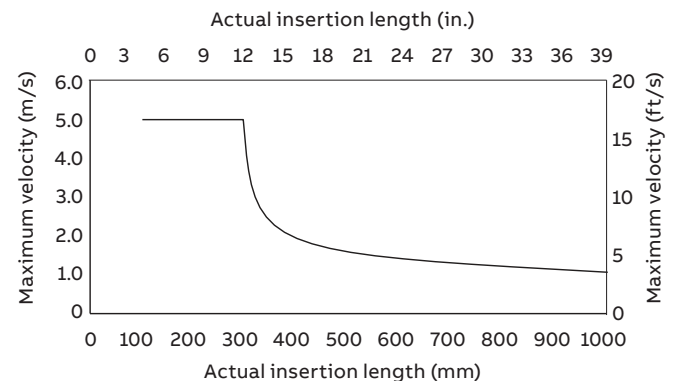

Figure 26 Maximum allowable velocity for different insertion lengths
The maximum velocity depends upon the actual insertion length. Typical insertion lengths are 0.125 and 0.5 x pipe diameter. Figure 26 is a guide* to the maximum allowable velocity for different insertion lengths.
* Figure 26 is intended as a guide only. Factors that influence the maximum insertion length into the pipe include: insertion sensor mounting components (for example, standoffs, bushes and valves) pipeline vibration, fluid vibration and pump noise.